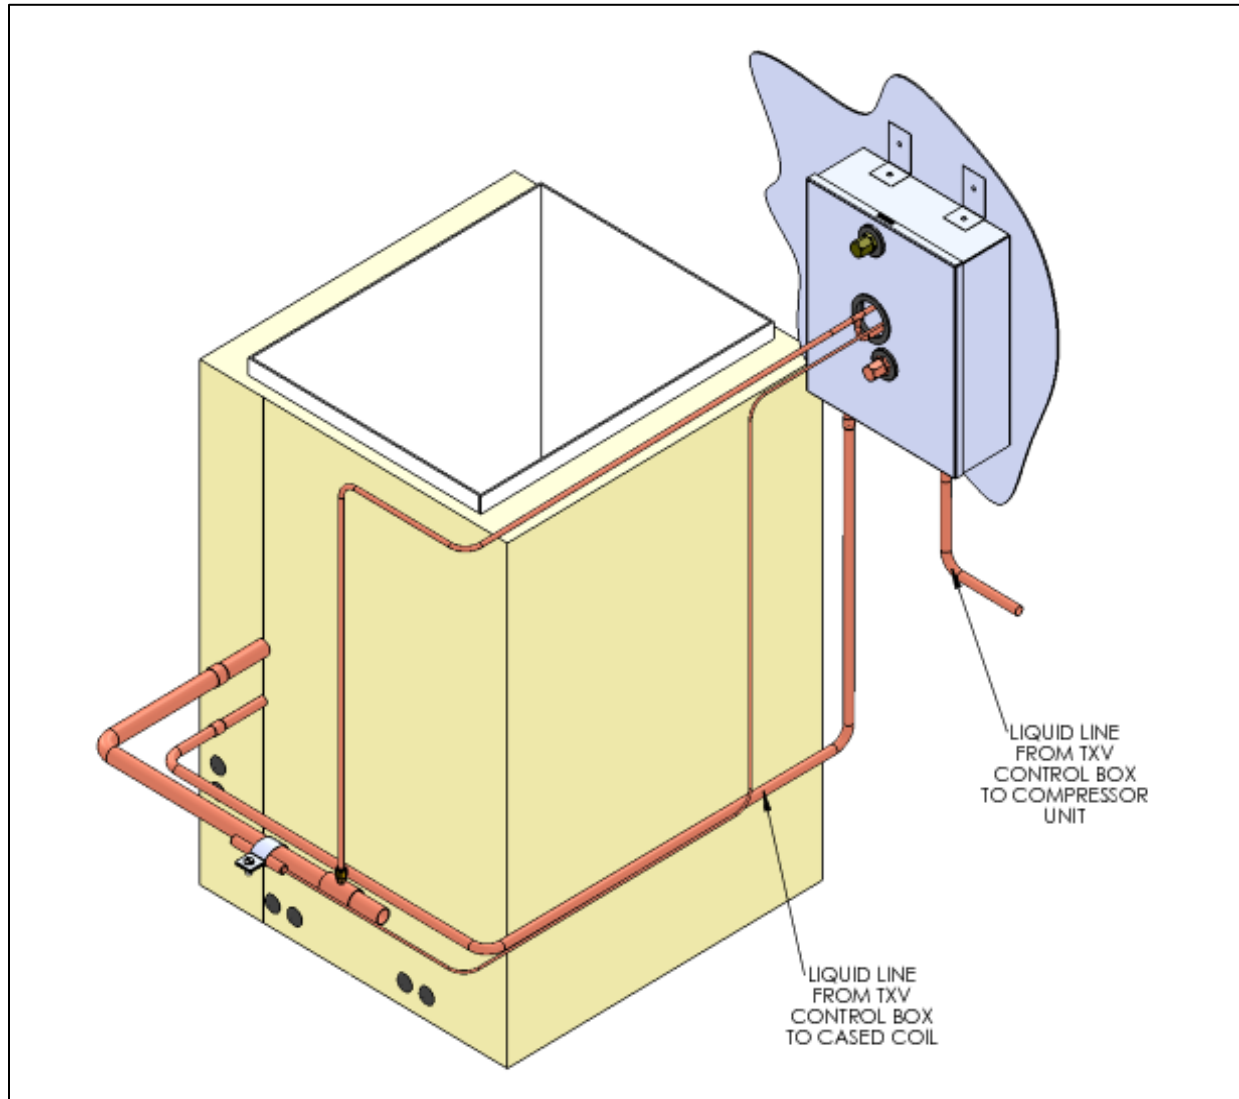

Figure 13. TXV Liquid Line Connections
Step 5: Measure and cut copper tubing to connect the liquid line from the TXV control box to the liquid line stub out on the cased coil as shown in Figure 13. Run the other liquid line from the connection on the TXV control box to the compressor unit, also shown in Figure 13. Nitrogen braze the joints.